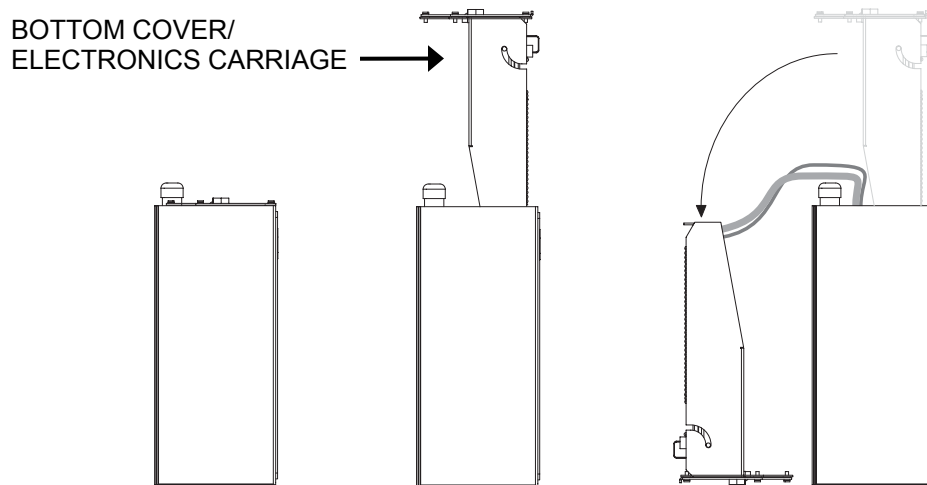

Fig. 2: Open Aurora (side)
6. Place the Electronics Carriage bottom-down on the flat surface as illustrated (As seen in Fig. 2).